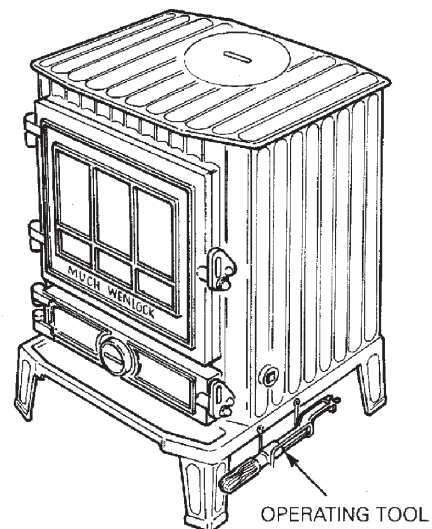

Fig. 5
- Replace operating tool on its support cradle when not in use. See Fig. 5.